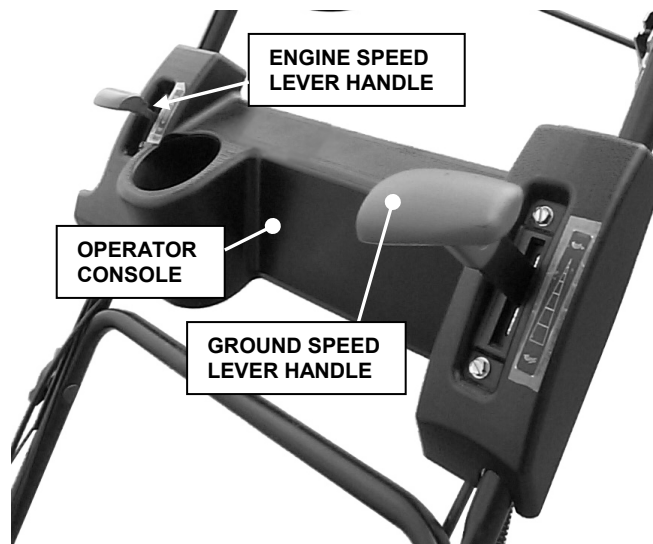

FIGURE 8
1. Install Operator console onto upper handle section with four 1/4-20 x 1/2" torx screws. See Figure 8.